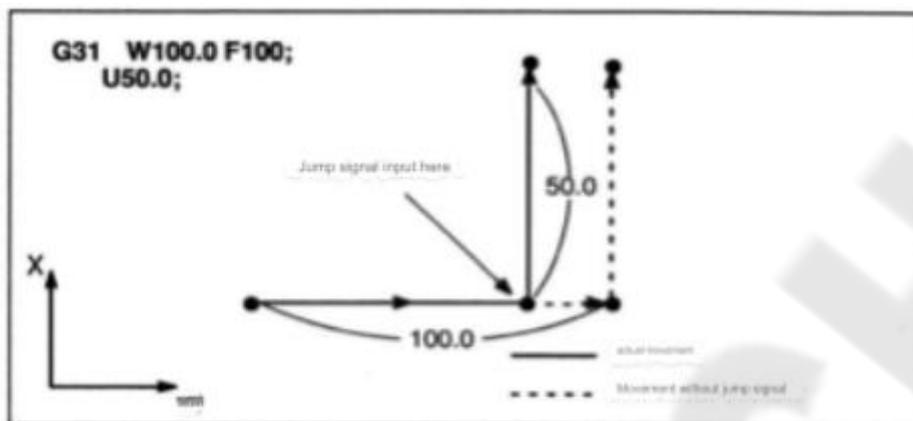

Figure 3-13
1. The next program segment of G31 is incremental coordinate programming, see Figure 3-13